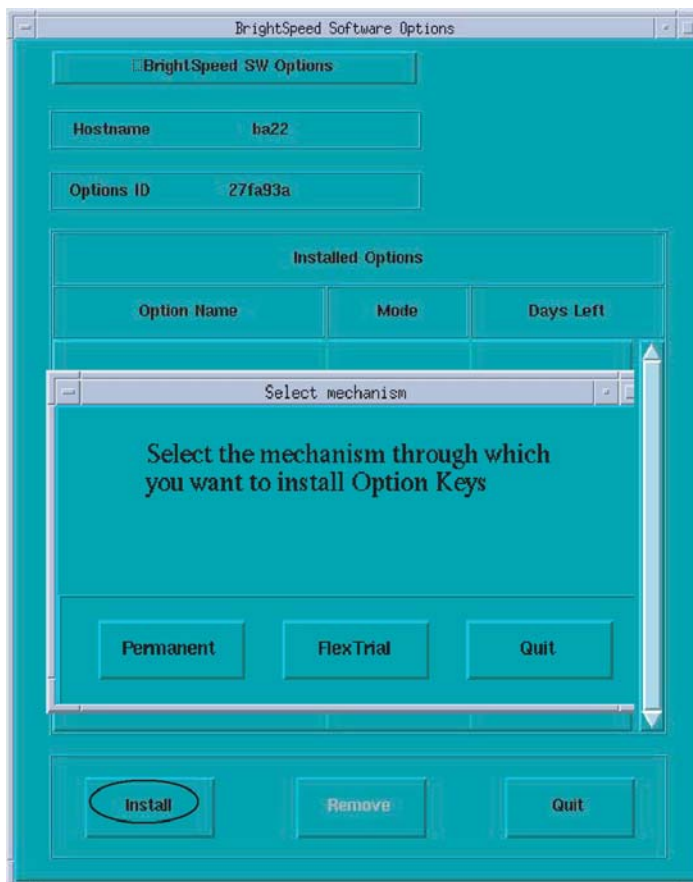

Figure 8-6 Options Window when First Selected
- 4.) Select INSTALL OPTIONS and click START. The console displays the Software Options window as shown in Figure 8-6.
- 15.) The console displays the ConnectPro Setup window as shown in Figure 8-6.
- 20.) The system will check valid setup entries, execute a perl script that makes changes to the configuration files for HIS/RIS, and return to the Software Option window shown in Figure 8-6.